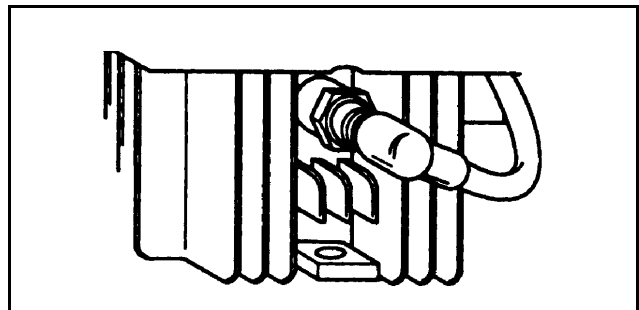

Figure 5
2. Install spark plug finger tight, then torque per specifications. (See Figure 5.)